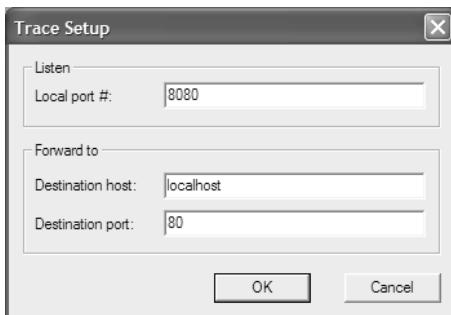

Figure 17.6 Use *localhost* when connecting to the local server or the server name when connecting to a remote server.
2. Start Microsoft Soap Trace Utility. Click *File* \Rightarrow *New* \Rightarrow *Formatted Trace*, or press *Ctrl+F* to connect to the server. Soap Trace allows you to monitor SOAP traffic to a local (*localhost*) and remote server. Assuming that you want to monitor XMLA traffic to the local server, accept the defaults in the Trace Setup dialog (Figure 17.6). If you need to interact with a remote server, replace the destination host with the name of the remote server, e.g. *ssas.abc.com*.